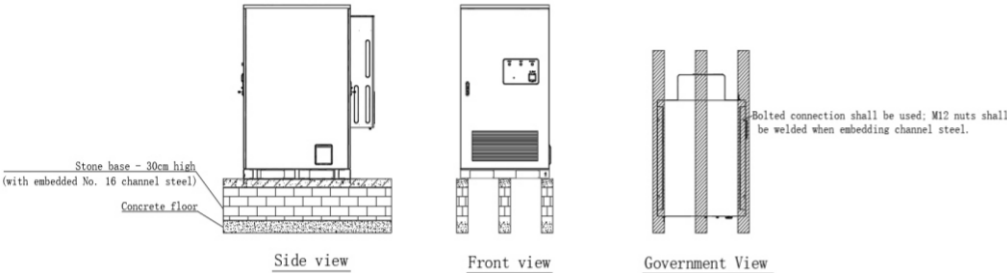

Figure 6-3 – Mounting diagram for energy storage system installation (The actual implementation depends on the project conditions.)
2. After completing the lifting operation, secure the base of the integrated cabinet with M12 screws (recommended torque: 40 N·m) according to project specifications. As illustrated in Figure 6-3: